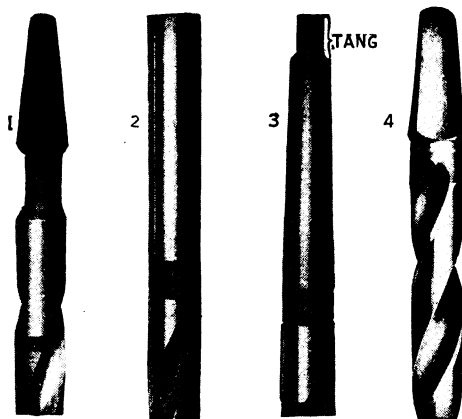

Fig. 5 — Four Popular Shanks
- 18 *The Shank* is the end of the drill which fits into the socket or spindle or chuck of the drill press. There are a number of types of shank, the most common of which are illustrated in Fig. 5.
- 19 *The Tang* is usually found only on taper shank tools (Fig. 5). It is the portion of the tool which fits into a slot in the socket or spindle. It may bear a portion of the driving strain, although its principal use is to make it easy to remove the drill from the socket — called "Drifting." (See Par. 96 and Fig. 25).